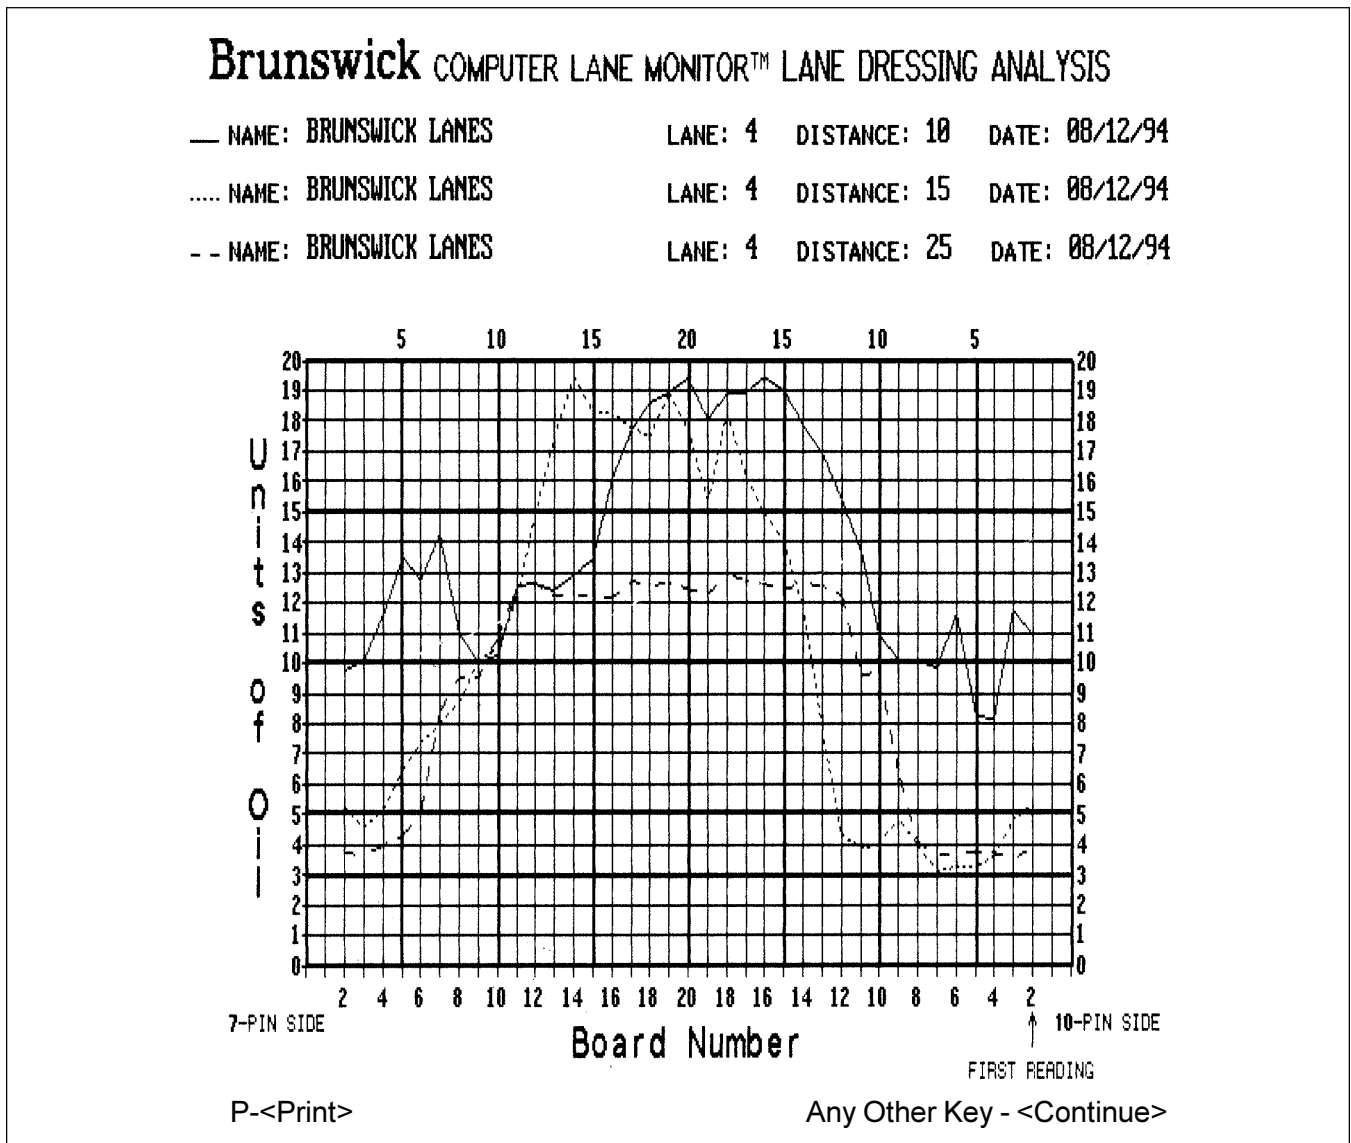

Figure 23 - Tape Graph
- The tape graph will then appear on the computer screen. See Figure 23. Select the "Print" command shown at the bottom of the screen by pressing the "P" key to print a copy of the graph on paper or press any other key to return to the Main Menu.